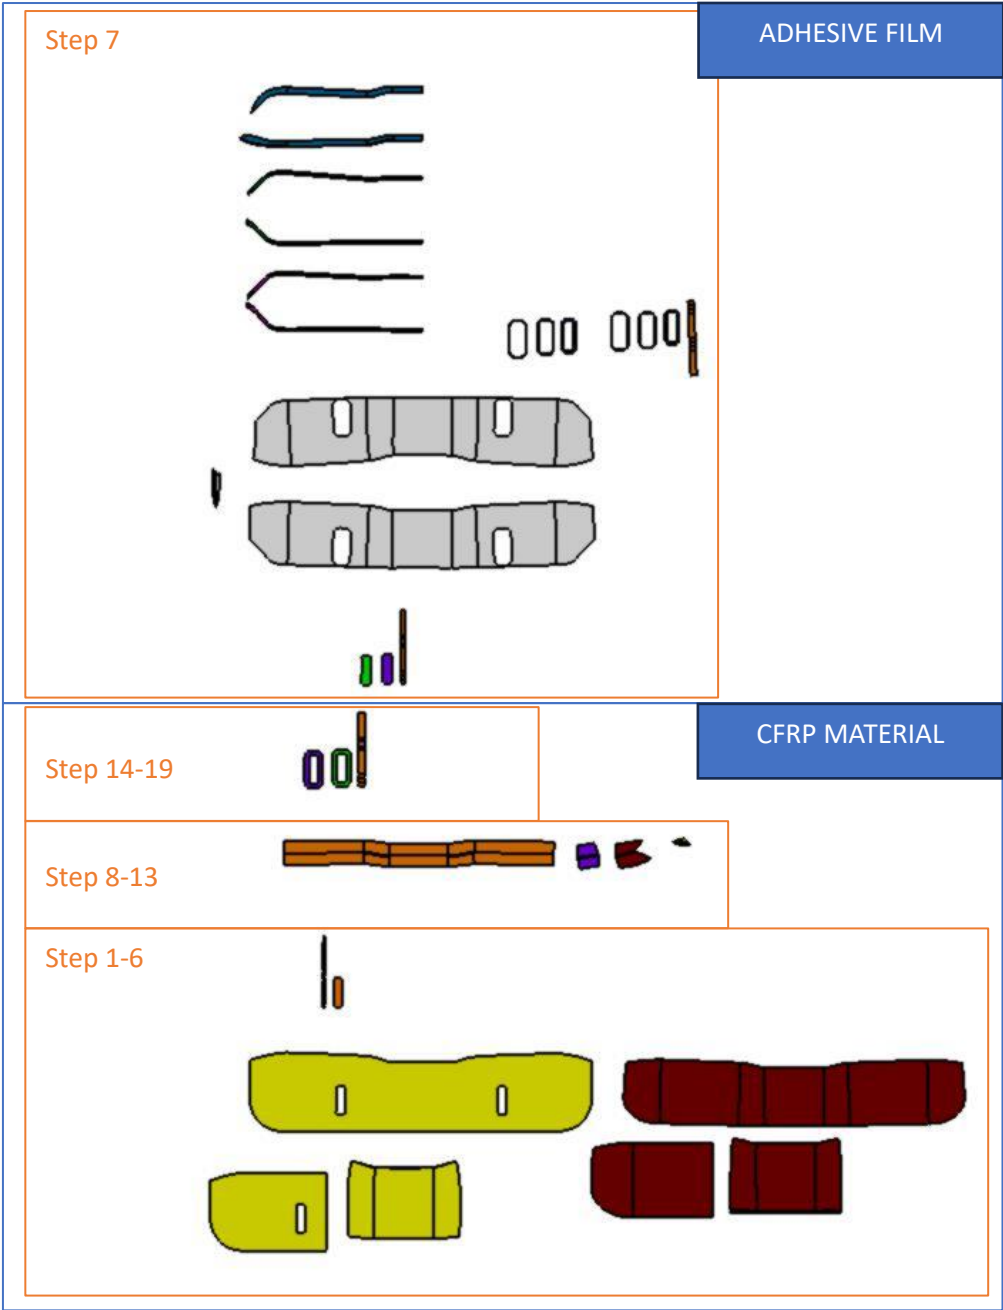

Figure 215
Figure 215 shows an overview of all export geometries and the corresponding materials and steps.
7. According to Chapter E2. *Lay-up Sequence* and as summarized by Figure 215 we need altogether 19 steps. To add these steps we simply click  on the top right (Figure 222).